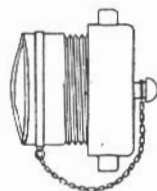

Fig. 14
2. Storing Fuel. Fig. 16. Fuel is best stored in a tank mounted on a brick or concrete cradle, allowing sufficient room underneath for the drawing off of any sediment or condensation water. Storage tanks should preferably be of welded construction, thoroughly cleaned inside and out before putting into service, and should be painted on the outside with a protective coating. They should preferably be installed under cover, and in a sheltered position. The fuel outlet should be located at one end of the tank, about three inches above the bottom, and an ample size of drain cock should be located underneath the tank at the opposite end. The tank should slope downwards from the fuel outlet end to the drain cock end with an inclination of between $\frac{1}{4}$ " and $\frac{1}{2}$ " per foot. The filler connection should be arranged on the top of the tank, and should consist of as short a pipe as possible, threaded to suit the hose pipe of the oil supplier. When not in use it should be closed by means of a dust cap which is retained by a chain. Fig. 14. The English size for oil storage tank filler pipe is $2\frac{1}{2}$ " diameter screwed with a British standard gas thread. A vent pipe should also be mounted on the top of the tank, terminating in a goose-neck protected by a wire cage. The filler and vent pipe can, with advantage be mounted on a manhole cover which should be provided for cleaning purposes, and should not be less than 24" diameter. For checking the oil depth a dipstick hole with a protective cover is effective.